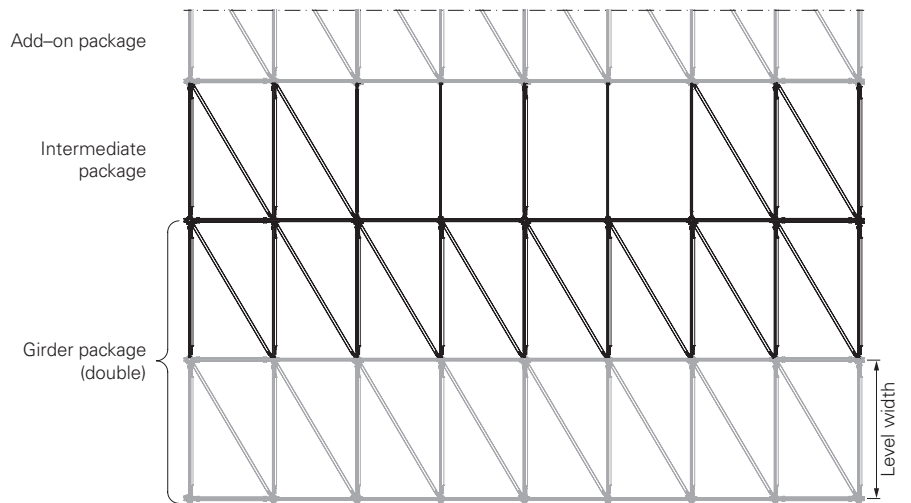

Fig. B2.01b
- With an even number of packages, a double girder package is mounted in the edge area. (Fig. B2.01b)